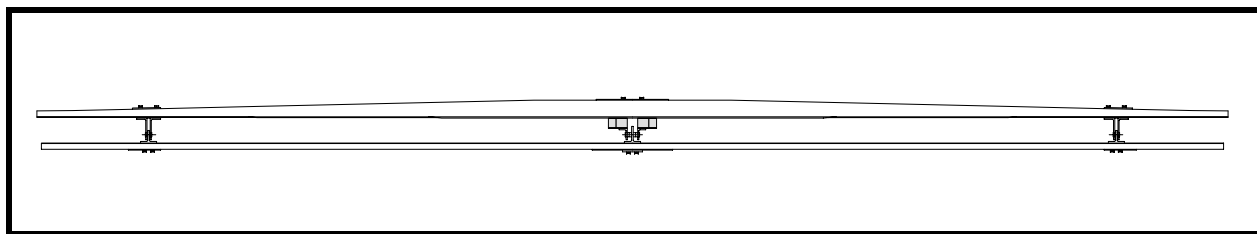

Figure 1
- ☐ Clamp the stabilizer hinges to the main stabilizer spar. See Figure 1. Make sure the hinges are correctly aligned and that the hinges work smoothly. You must be able to move the elevator spar smoothly on the hinges without binding.